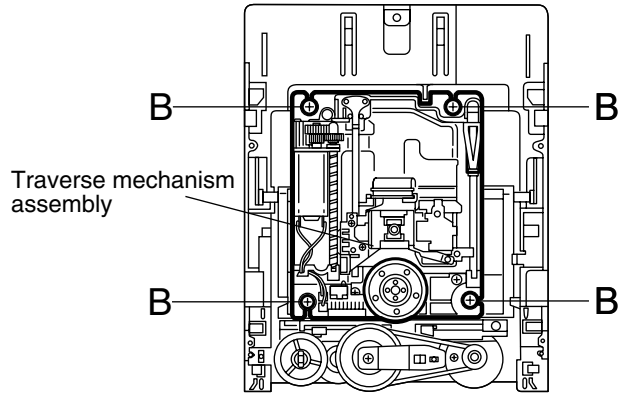

Fig.4
Please refer to "Fig.4" of "Disassembly method" for details.
■ Removing the servo control board (see Fig.4)
■ Removing the traverse mechanism assembly (See Fig.4 and 5)